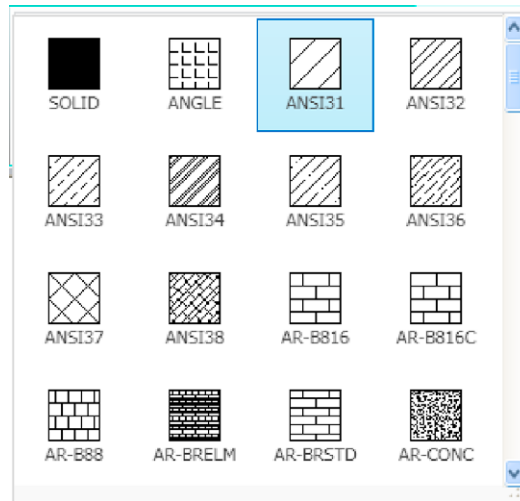

Fig. 8.6 Select **ANSI31** in the **Hatch Creation/Pattern** panel
2. Left-click **ANSI31** in the **Hatch Creation/Pattern** panel (Fig. 8.6).